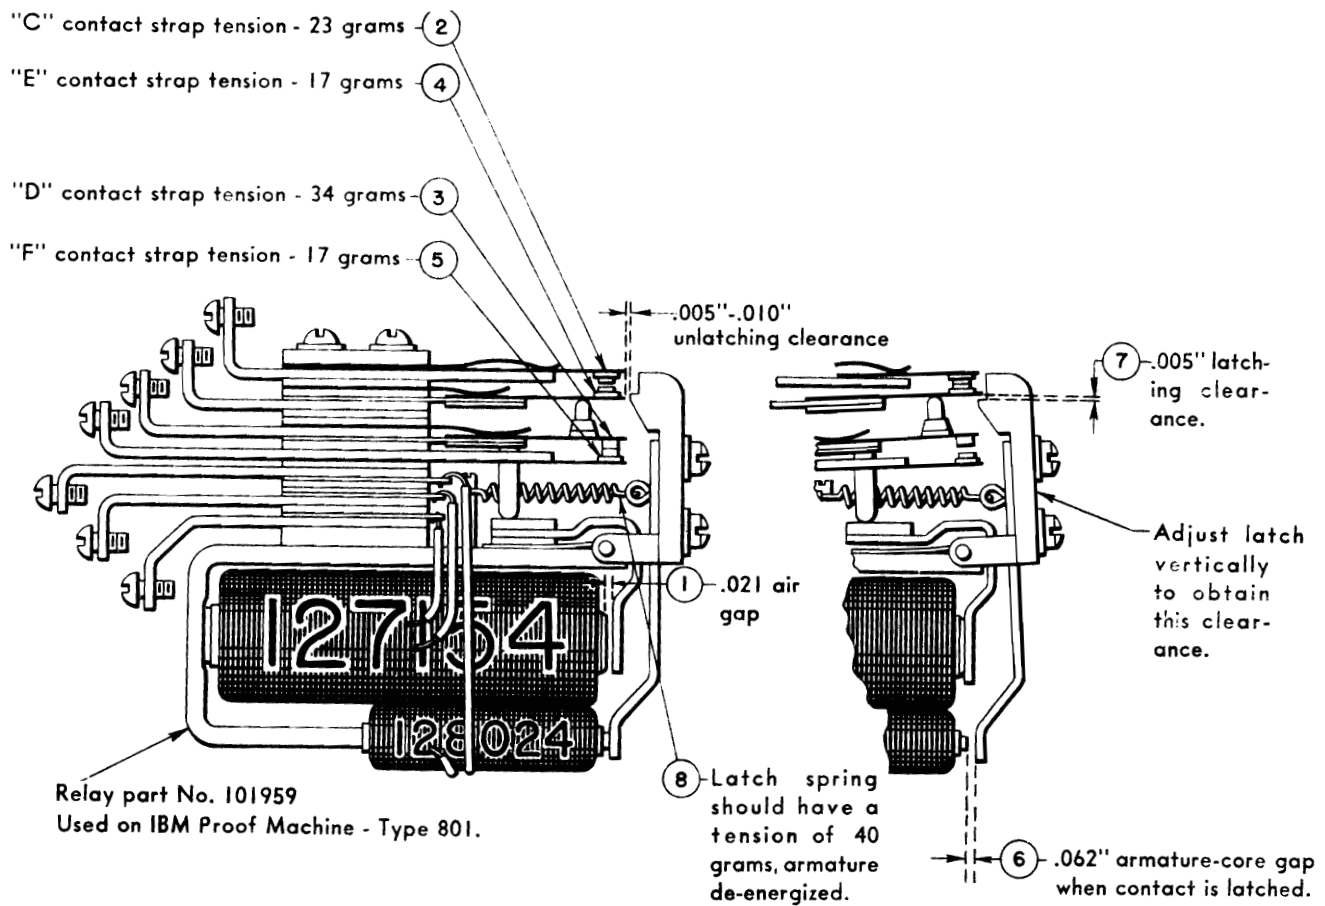

Figure 8. Duo Latch Relay
Duo Latch Relay Assembly No. 101959 (Figure 8). This relay is used in the amber light circuit of the Proof Machine, Type 801. It is special in that the AU N/O contact points are equipped with a latching mechanism. When the relay becomes energized, the latch moves under the contact and holds the points (AU) closed. These points are opened when the unlatching coil (lower core) is energized, moving the latch away from the contact AU. This prevents the operator from releasing the amber light circuit by turning the machine main line switch OFF.